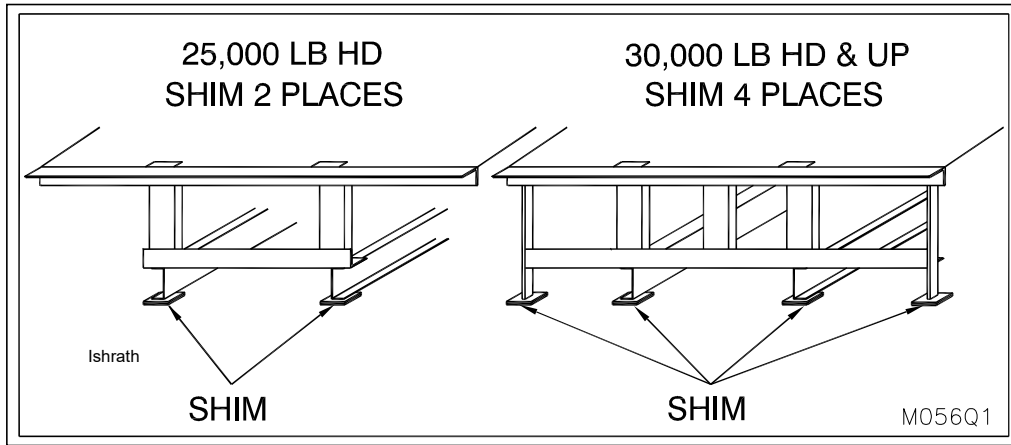

Figure 12: Hydraulic Dock Rear Shims
1. \_\_\_ Place shims of minimum length and width of 3" by 4" and a minimum thickness of 14 gauge under rear frame until top rear of dock leveler is flush with rear curb angle. (See "Figure 12: Hydraulic Dock Rear Shims" on page 12) Tack weld into position.